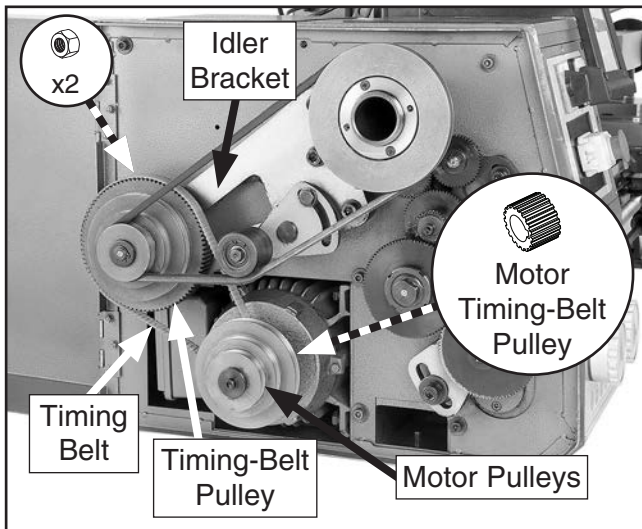
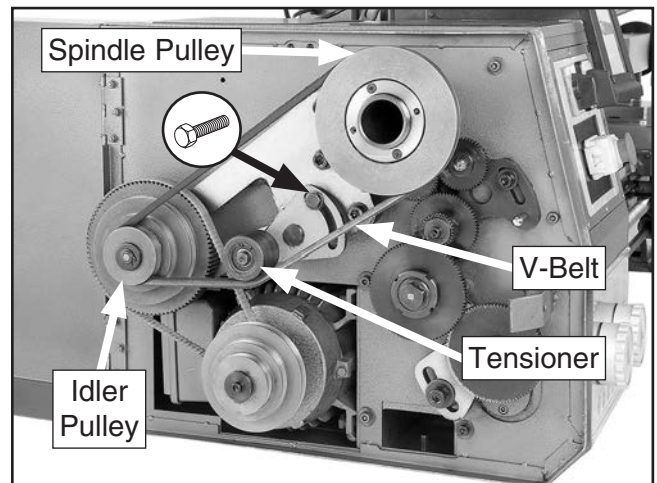

Figure 15. Timing belt installation components.
Figure 16. V-belt controls and components.
2. Loosen (2) M12-1.75 hex nuts that secure timing-belt pulley to idler bracket (see **Figure 15**), allowing timing-belt pulley to slide in its mounting slot.
3. Place timing belt behind motor pulley and around motor timing-belt pulley (see **Figure 15**).
4. Install free end of timing belt on timing-belt pulley (see **Figure 15**), making sure teeth of belt mesh with notches in pulley.
5. Pull timing-belt up, creating tension in timing belt, then tighten (2) hex nuts from **Step 1**.
6. Loosen M8-1.25 x 25 hex bolt that secures tensioner to timing gear bracket (see **Figure 16**).
7. Install V-belt onto largest spindle pulley groove and smallest idler pulley groove, as shown in **Figure 16**.
8. Pivot tensioner against V-belt to create tension (see **Figure 16**) and re-tighten hex bolt from **Step 1**.